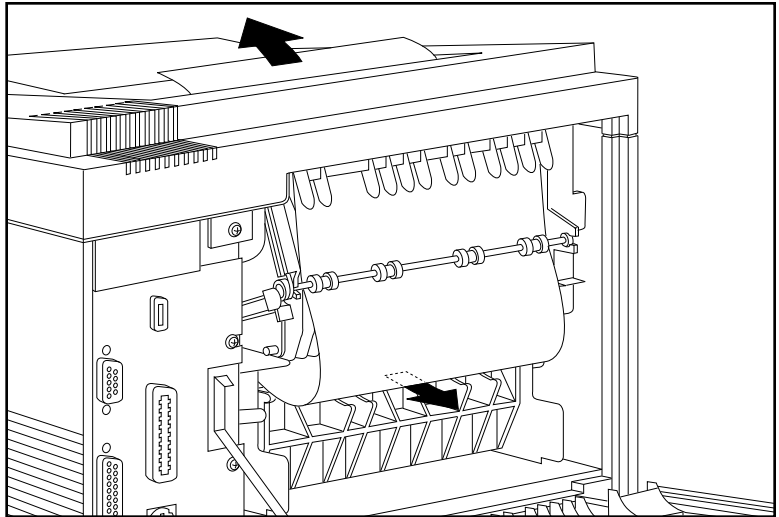

Fig. 10.12 Remove the Jam from the Fuser and Paper Exit Area
- a. If the media is not completely past the fuser area, first gently pull the media's trailing edge loose from the fuser unit and then pull the lead edge to remove the media via the paper exit (fig. 10.12).